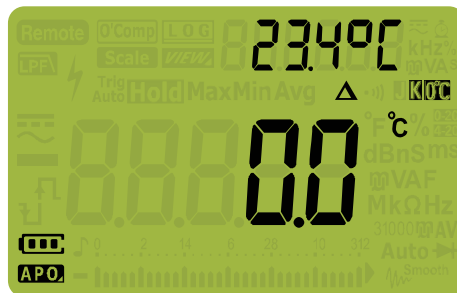

Figure 2-28 Temperature measurement without ambient compensation
- 1 To measure temperature, position the rotary switch to \rightarrow and press  once. Set up your multimeter as shown in Figure 2-28.